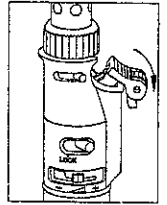

figure 3
- b. Then, press the TRIGGER downward to ignite the tool unit. (Please see figure 3) In this moment, the gas is released and the piezo is pressed down and cause a spark to ignite the gas.